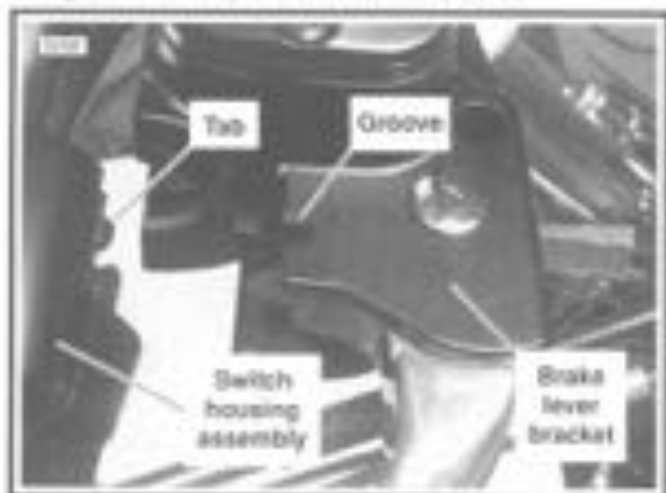

Figure 7-74. Fit Brake Lever/Master Cylinder to Right Handlebar Switch Housings
8. See Figure 7-74. Position the brake lever/master cylinder assembly inboard of the switch housing assembly, engaging the tab on the lower switch housing in the groove at the top of the brake lever bracket.